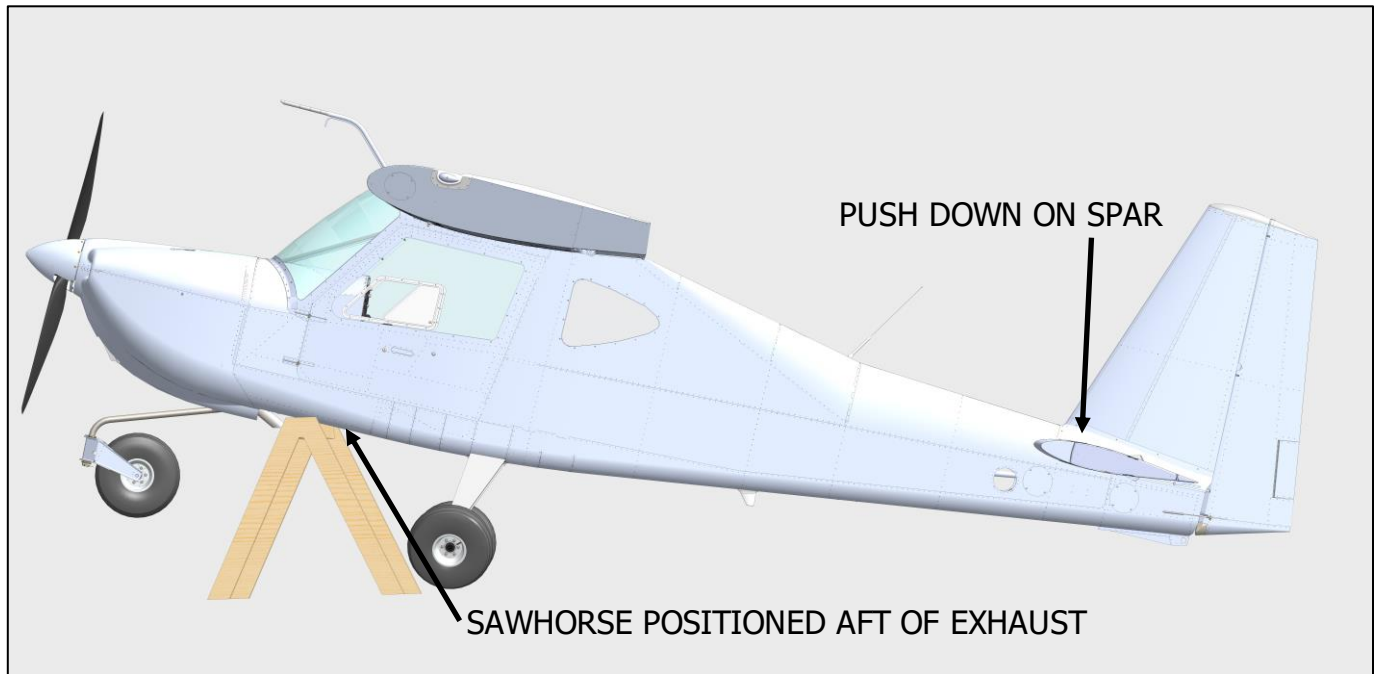

Figure 5.7.1.1 Lifting the front of aircraft.
- (c) Place a padded sawhorse under forward fuselage as indicated in Figure 5.7.1.1.